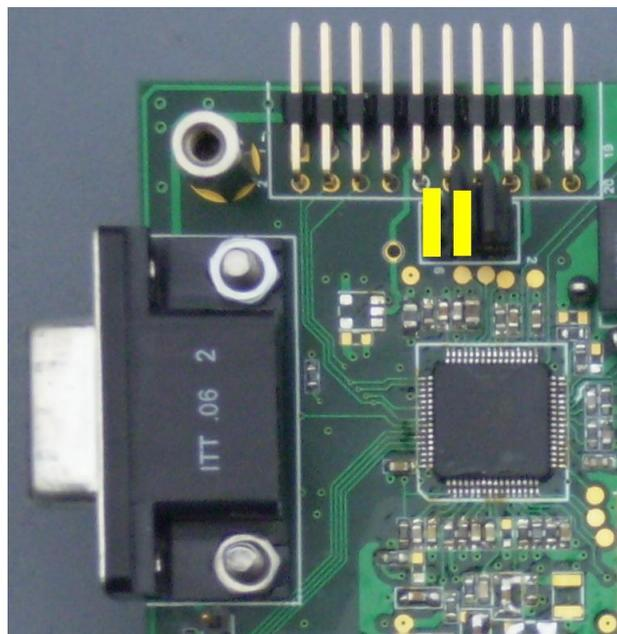

Figure 10 J4 Links 3-4 and 5-6 for C-BUS Operation and Re-programming
- Set the J4 links on DE70321 for C-BUS operation (3-4 and 5-6 connected, no jumper across 1-2) as shown in *Figure 10*.